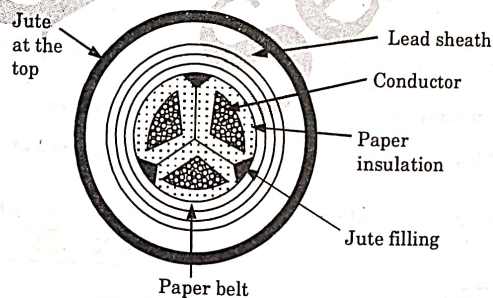

Fig. 5.14.2. Belted 3-core cable.
1. These are used for the voltage level upto 11 kV. The construction of belted cable is shown in Fig. 5.14.2.